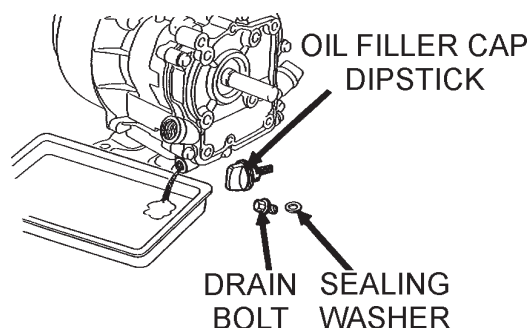

Figure 22. Engine Oil (Draining)
1. Drain the engine oil when the oil is **warm** as shown in Figure 22.